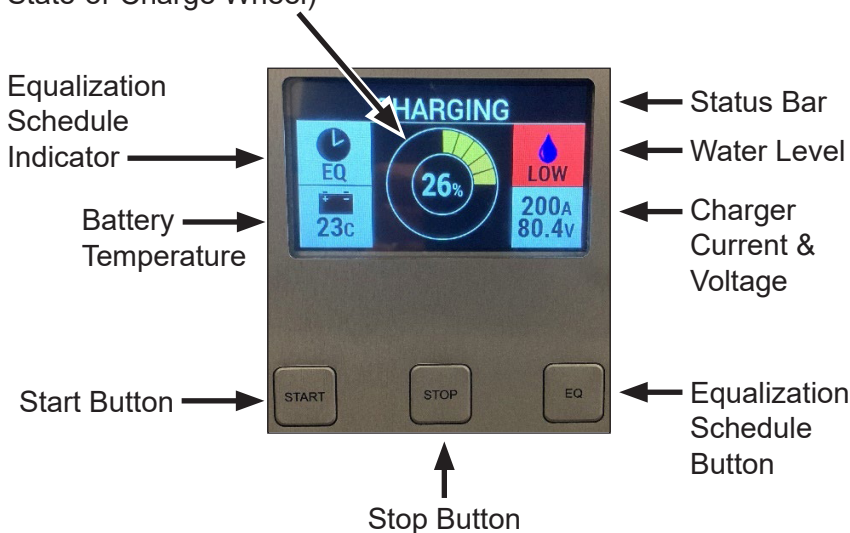

Figure 23 Graphical Battery Display
The graphical battery display (Figure 23) changes, showing parameters relating to the battery state of charge (SOC), when the charger connects to a battery.
8.1.1.1. Press and hold the Start button (Figure 23) for three seconds to change the graphical battery display to the alternate tabular battery display (Figure 24). Repeat this step to return the display to the graphical battery display.
Start	If the charger is in the Charge Stopped state, then press the Start button (Figure 23) momentarily to restart the charge. Press and hold the Start button for three seconds to switch from the graphical battery display (Figure 23) to the alternate tabular battery display (Figure 24). Press and hold the Start button for three seconds again to switch back to the graphical battery display.
Stop	Press the Stop button (Figure 23) to stop the charge. The charger displays, on the status bar, "Charge Stopped."